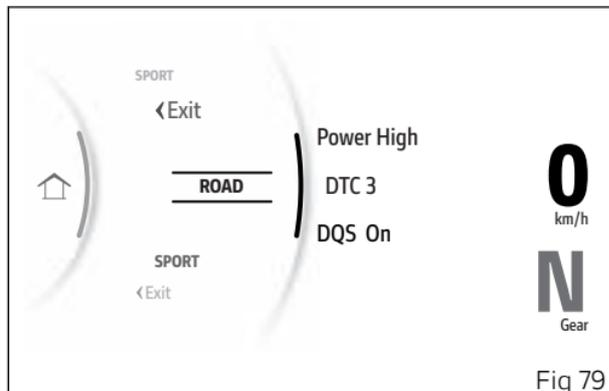

Fig 79
- Press and hold the MODE/ENTER button (3) for a long time.
- The dedicated screen(Fig 79) is displayed where, using buttons (1) and (2), it is possible to scroll through the available Riding Modes and display the parameters with the relevant set values.
- Press the MODE/ENTER button (3) to confirm.